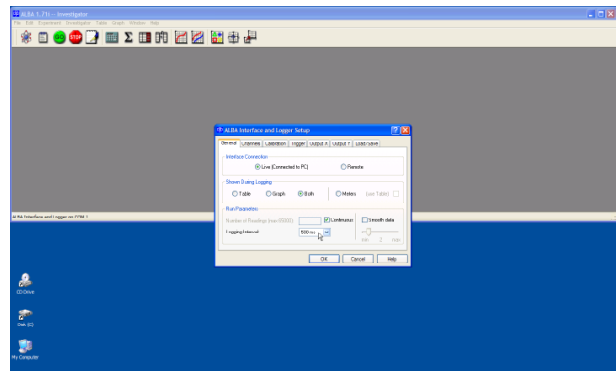

Figure 98
Step 6: Click in the top window to select it then click the GO icon to set up the Investigator. Continue setting up the Investigator until you get to the screen that requires you to press GO to start the data capture. Do not press GO yet if you wish both instances of the software to start at the same time. The two screen-shots below show the setup for the light sensor - Figures 98 & 99.